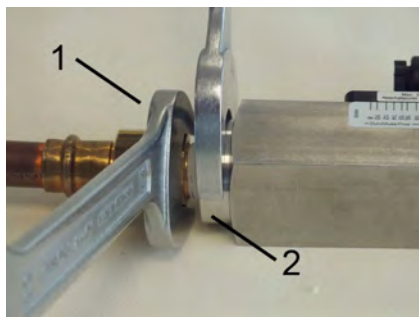

Fig. 13: Screw in the device
3. ➤ Keep turning in the adapter union (Fig. 13/1) while holding the process connection of the device locked (Fig. 13/2) until the connection is tight.